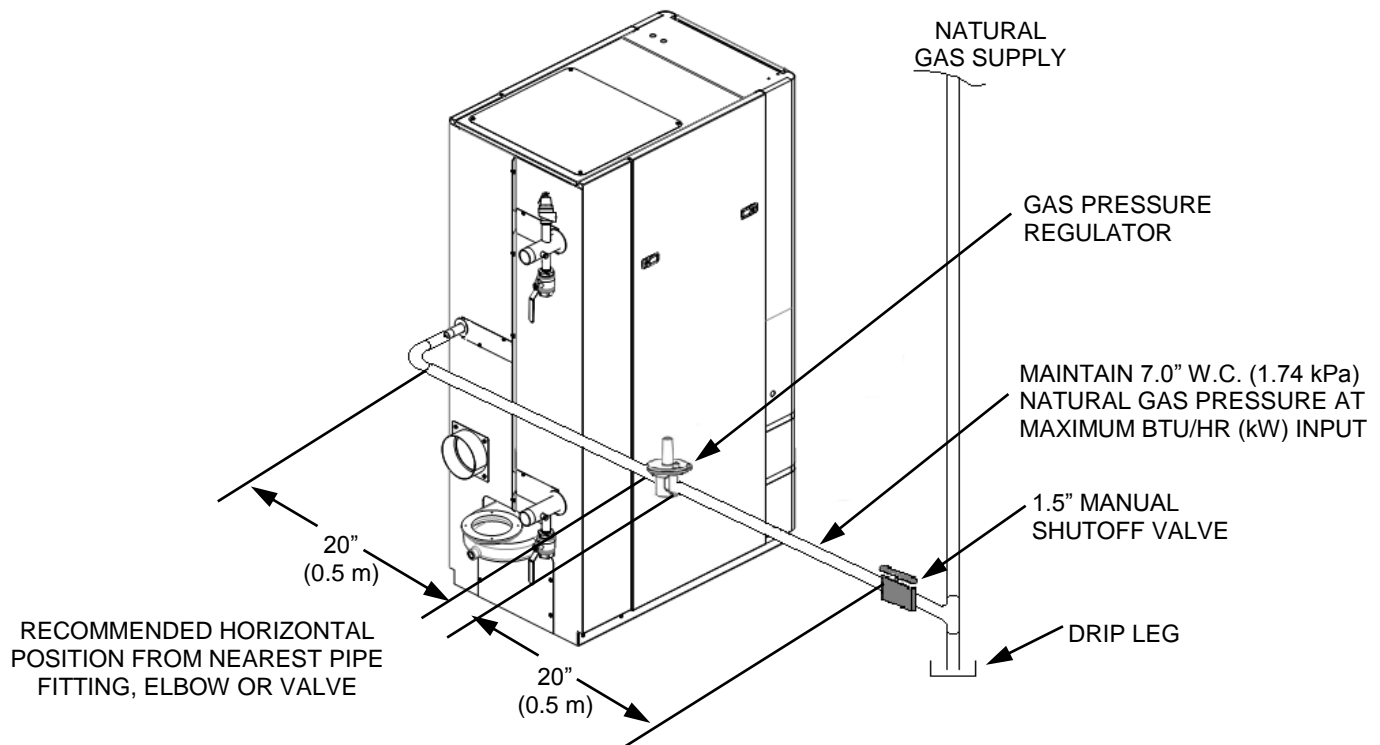

Figure 1: Single Heater Pipe Connections – Innovation Shown
An external isolation valve must be installed at each **Innovation-Edge** heater, as shown in Figure 1. This isolation valve is supplied with the heater.
- When installed horizontally the required distance between the gas pressure regulator and the nearest pipe fitting, elbow or valve is 20 inches (0.5 m) (see Figure 1).